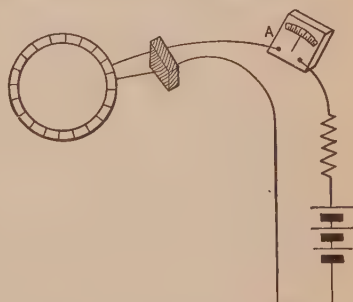

FIG. 167. Test for open armature coil. A coil is open if the ammeter reads lower than across the other coils.
**Second:** If the sparking is due to a break in the coil, it will be violent and will always occur at one place on the commutator. To test for an open coil, disconnect the brushes and send a low current through the ammeter and one coil after another as shown in Fig. 167. Two metal strips, separated by a wooden block and spaced to touch one segment each and span one gap, make a desirable pair of terminals. If the ammeter shows very much less reading when the metal strips are across any two segments,